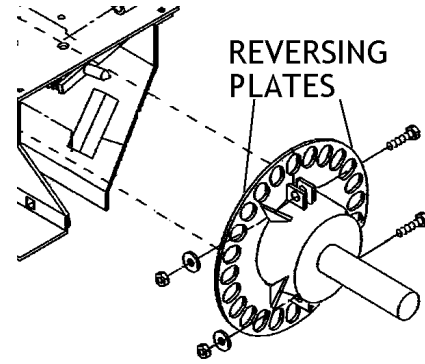

Fig. 19 - Reversing plate installation
- 30 On both ends of crosstube, position reversing plates vertically against weldment on each side of crosstube. See Fig. 19.
- 31 Bolt reversing plates together using 3/8" x 1-3/4" bolts and 3/8" lock washers and nuts. Tighten using 9/16" wrench. See Fig. 19.